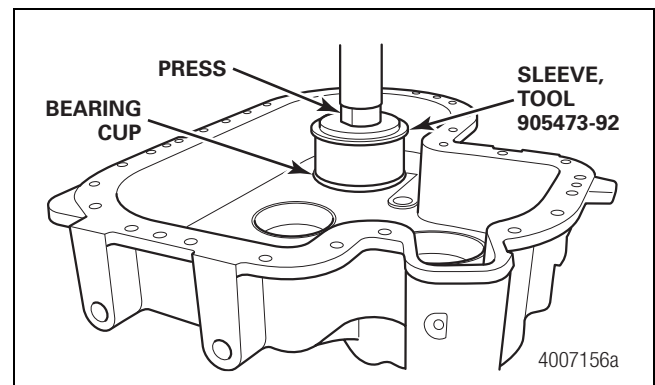

Figure 6.12
2. Use a mallet or press and sleeve to install the bearing cups into the bore until correctly seated. Refer to Section 13 for the correct sleeve. Refer to the end play procedures for initial shim stack up requirements. Figure 6.12.